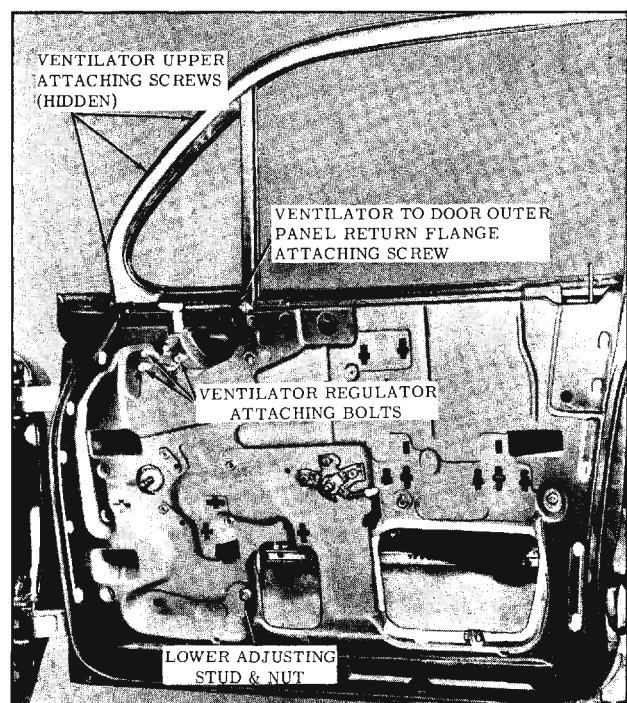

Fig. 16-34 Ventilator Assembly Attachment
5. Remove ventilator upper attaching screws along window frame. (Fig. 16-34)
- To correct a condition where glass is "cocked" in glass run channels, loosen inner panel cam attaching screws, adjust cam up or down as required and tighten screws. (Fig. 16-34)
- To adjust lower portion of ventilator division channel for proper alignment with door window assembly, lower door window and loosen ventilator adjusting stud nut. Turn adjusting stud in or out or position lower end of channel fore or aft as required; then tighten adjusting stud nut. (Fig. 16-34)
- To adjust lower portion of window glass run channel in or out for proper alignment with door window, raise door window. From inside door, loosen glass run channel lower attaching nut or screw, adjust channel as required and tighten nut or screw. (Fig. 16-34)
- Remove ventilator division channel lower adjusting stud and nut. (Fig. 16-34)
- Remove door window lower sash channel cam. (Fig. 16-34)
- Remove inner panel cam and window regulator attaching bolts and carefully remove regulator assembly from door. (Fig. 16-34)
3. Through inner panel access hole, loosen nut or screw securing lower end of glass run channel. (Fig. 16-34)